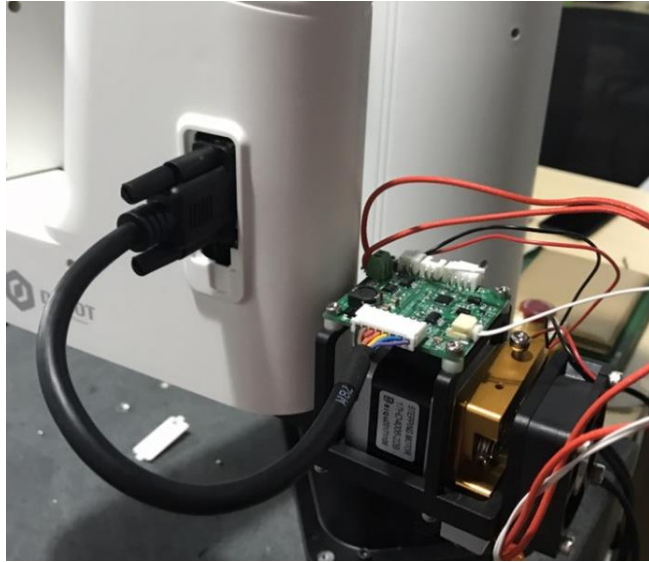

Figure 3.6 Connect to Forearm I/O interface
- Step 2** Connect the connector of the 3D printing kit to the Forearm I/O interface, as shown in Figure 3.6.